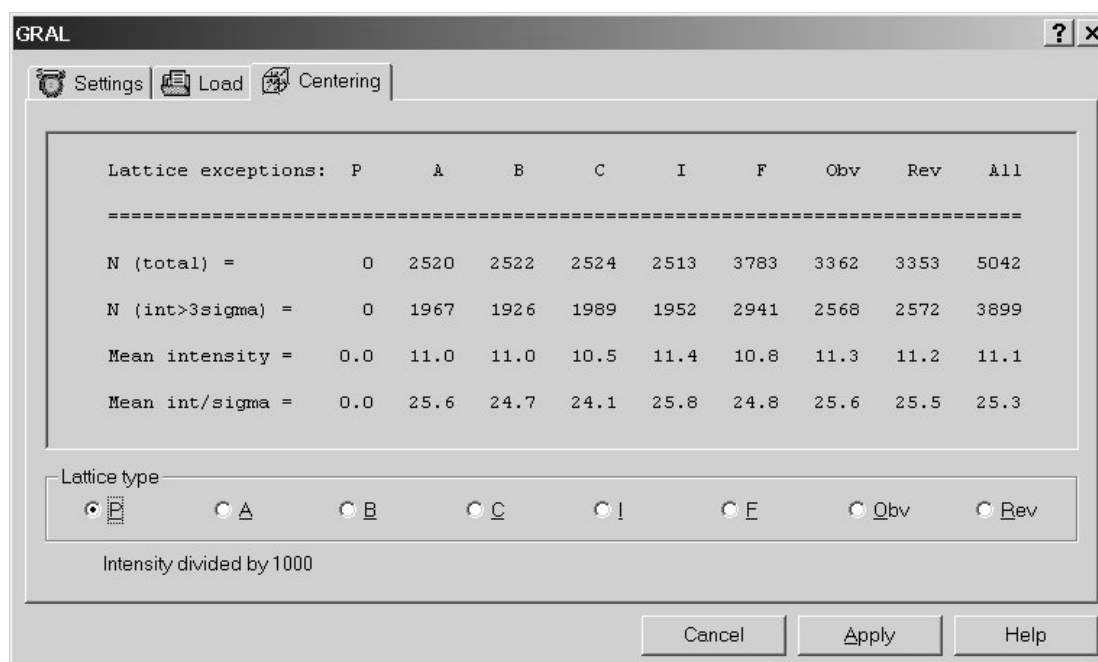

Figure 6.5.34 Screenshot of the GRAL plug-in Centring Window
- Next the lattice centring is determined. Figure 6.5.34 shows a table of statistics which allows the user to check the plug-in's selection. If the user wishes to choose an alternative then the relevant "radio box" can be selected by clicking on it and then "**Apply**" can be clicked to move to the next step. Here we can see that the table of statistics reflects the P(rimitive) lattice selected by GRAL.